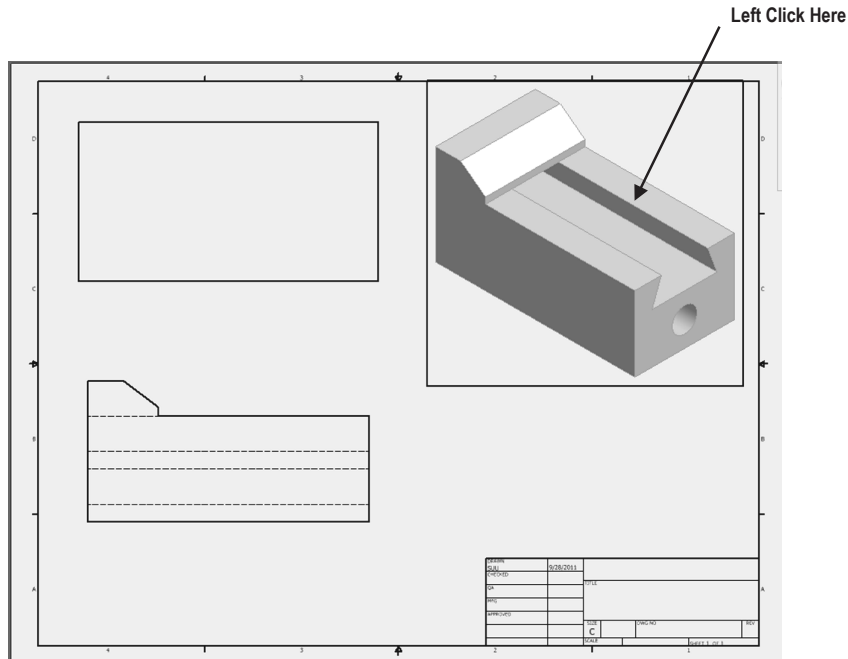

Figure 20
25. Move the cursor over to the upper right corner of the page and left click once as shown in Figure 20.